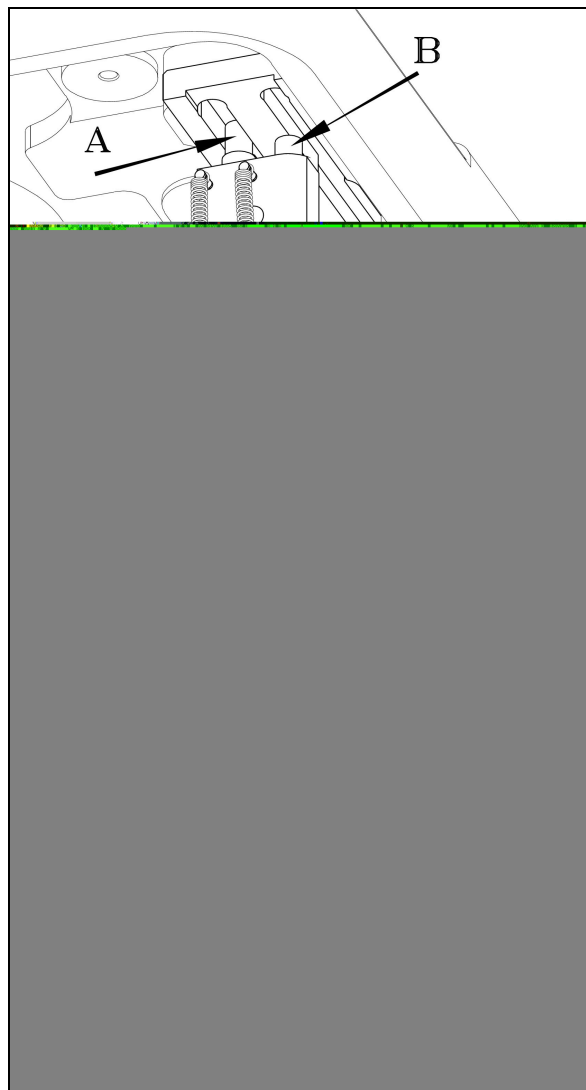

Fig 1
< The adjustment of the flybar pin bracket (C) in Fig 1 is not a standard adjustment. It is preset at the factory. If the bracket is removed, reinstall as per the following adjustments >